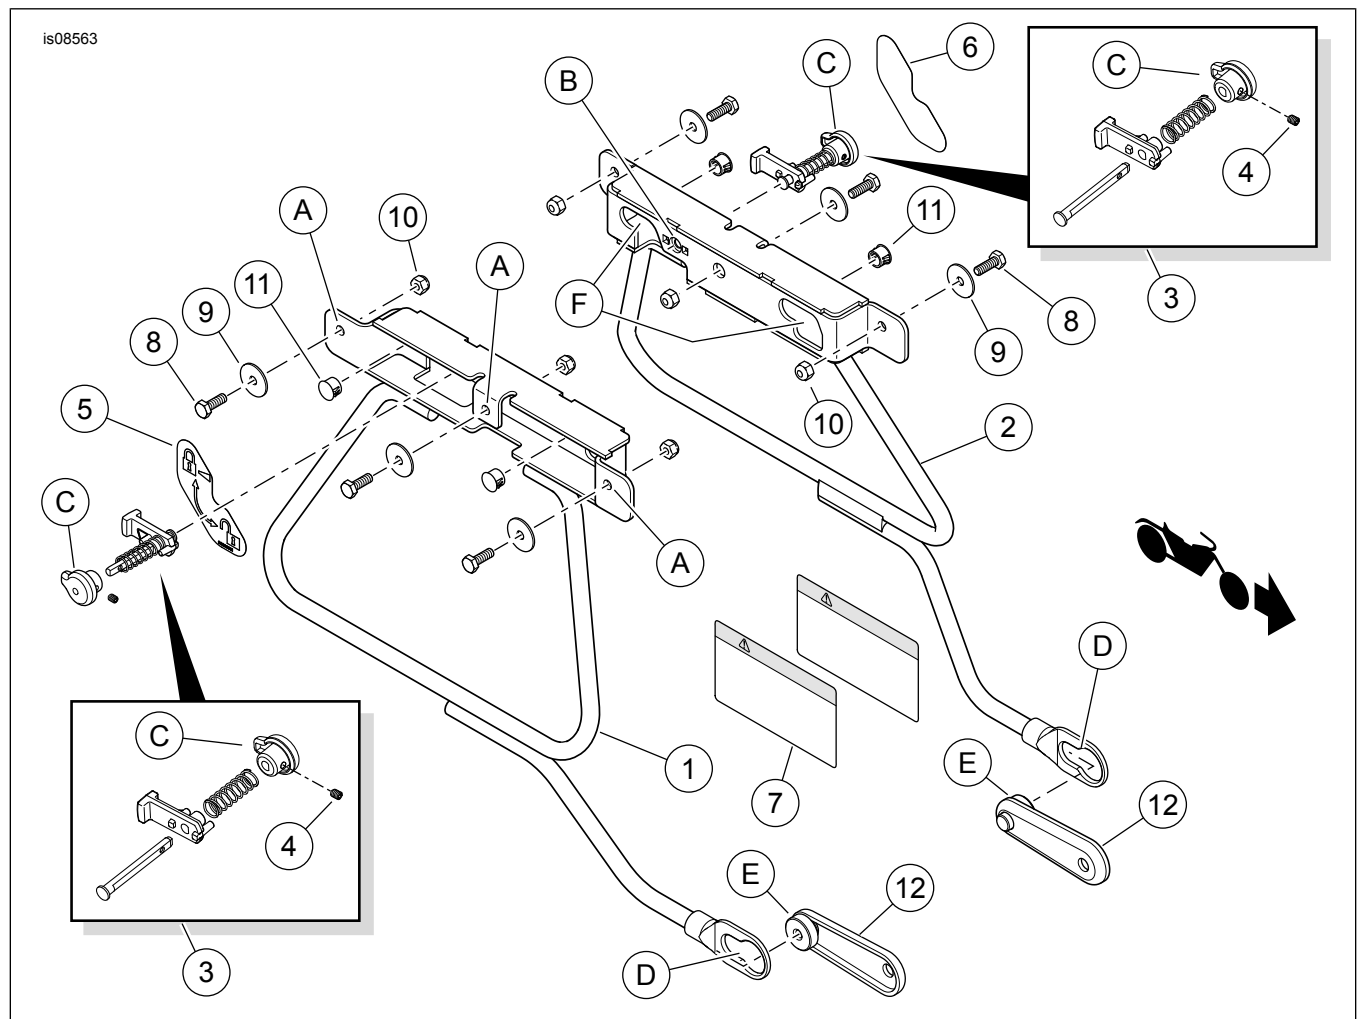

Figure 7. Service Parts: Softail Detachable Saddlebag Conversion Kit
2. See Figure 7. Pull knob (C, inside saddlebag at upper rear corner). Rotate knob to the unlock position (clockwise for left saddlebag, counterclockwise for right saddlebag).
3. Approach the motorcycle holding the saddlebag. Rotate so the lower support arm is slightly downward. Insert the large diameter of the keyhole (D, at the lower support arm end) over the lower front mini docking point (E).
- b. **WITHOUT Detachable Accessories:** Swing the saddlebag body down so the standard docking points on the fender support/strut cover slide into the slots (F) in the bracket on the back of the saddlebag. **WITH Detachable Accessories:** Swing the saddlebag body down so the outer mini docking points (stacked on top of the standard docking points on the fender support/strut cover), slide into the slots (F) in the bracket on the back of the saddlebag.
5. Pull knob (C) outward. Rotate knob toward the LOCK position until it snaps into place. Push saddlebag toward the rear of the vehicle to make sure that the latch is fully engaged.